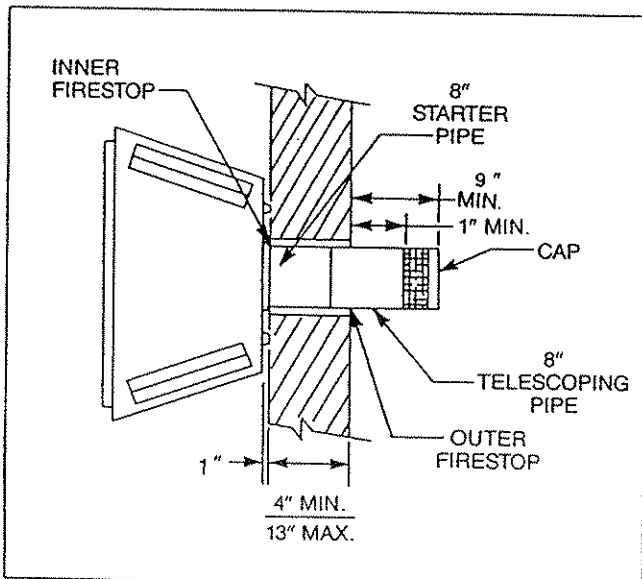

Fig. 3. Straight out installation (4" — 13" wall thickness).
3. Four (4) **corner** supports. (Example: Four (4) concrete masonry blocks.) These supports must be positioned so **they contact** all four (4) dimples and perimeter edges on the **bottom of the unit.**
There are four (4) **basic** types of installations. (See Figs. 3, 4, 5 and 6.)